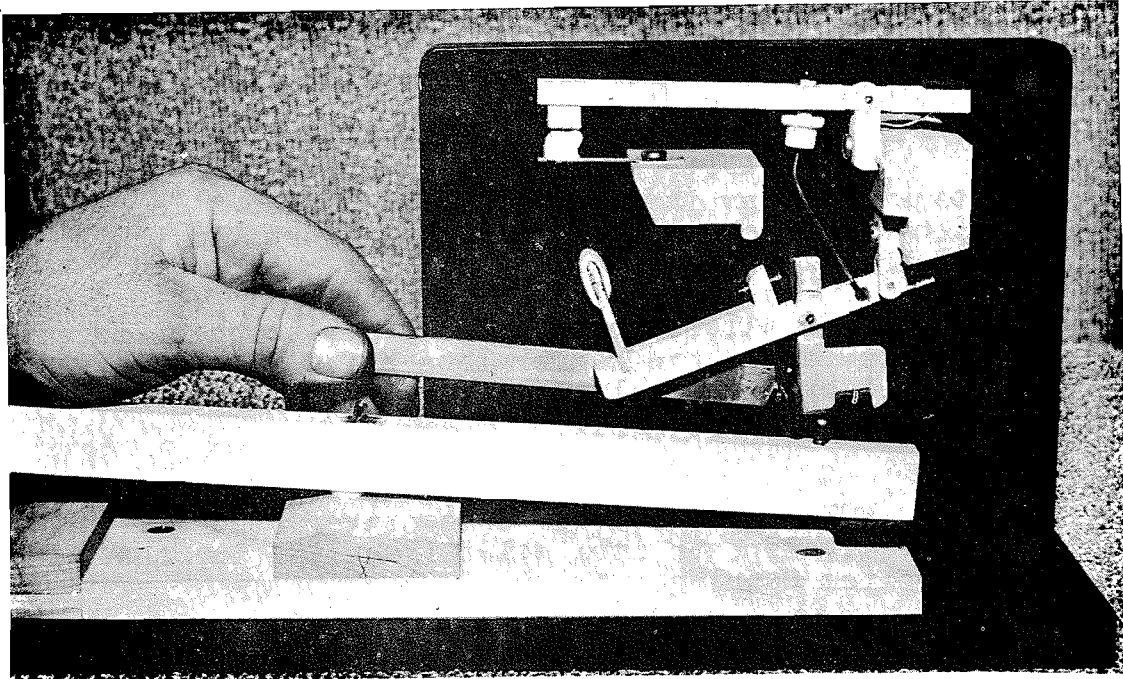

Fig. 120-M Adjusting Spoon
6. SPOON ADJUSTMENT (Fig. 120-M.)